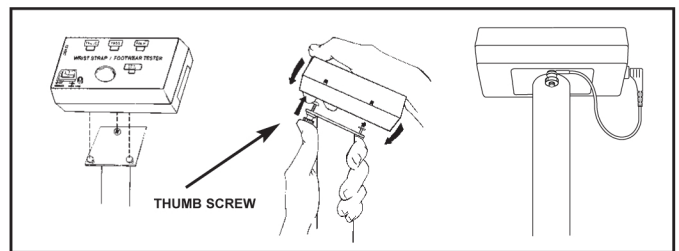

Figure 10. Installing Tester on bracket and securing Tester to bracket
- IV. Install the Tester on the bracket by aligning keyholes on the back of tester with mounting studs on bracket. While pushing up on thumb screw, insert the mounting studs into the keyholes and slide the tester down. See Figure 10.